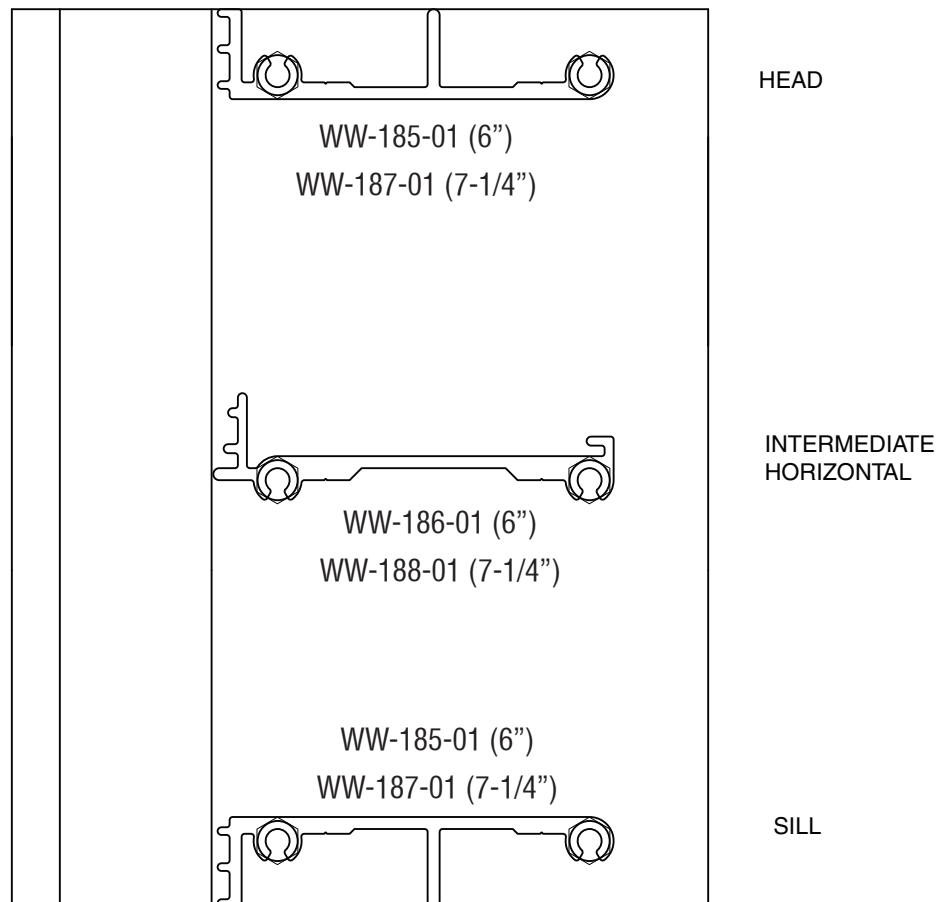

FIGURE 7
- 2.1.1 Attach shear blocks to all vertical members. **SEE FIGURE 7** for proper orientation and installation on mullion.
- 2.1.4 Attach shear blocks to all vertical members. **SEE FIGURE 7, page 10** for proper orientation on mullion.
- 2.1.10 Attach shear blocks to all vertical members. **SEE FIGURE 7, page 10** for proper orientation on mullion.